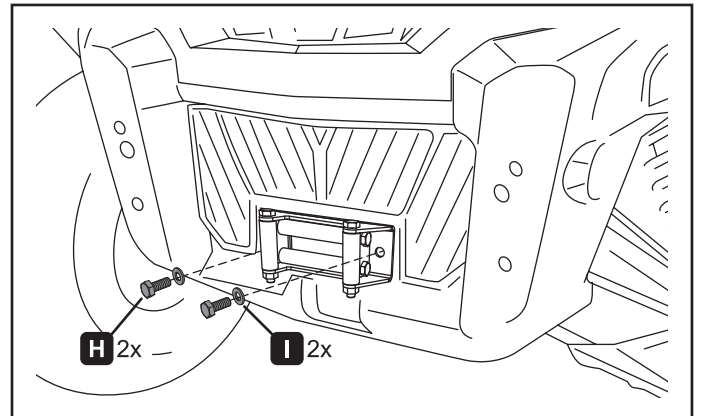

Figure 8.
6. Install your fairlead with bolts (H) and washers (I) as shown in figure 8. Standard fairleads require drilling of the front fascia.